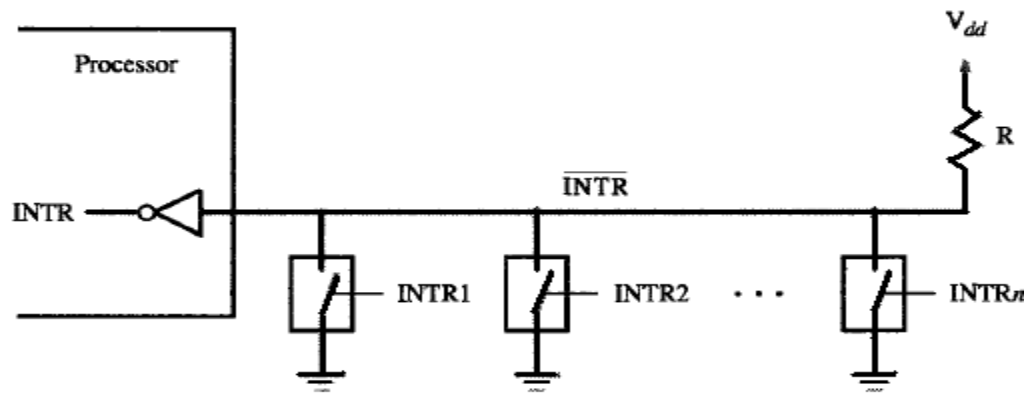

Figure 4.6 An equivalent circuit for an open-drain bus used to implement a common interrupt-request line.
- A single interrupt-request (IR) line may be used to serve n devices (Figure 4.6).